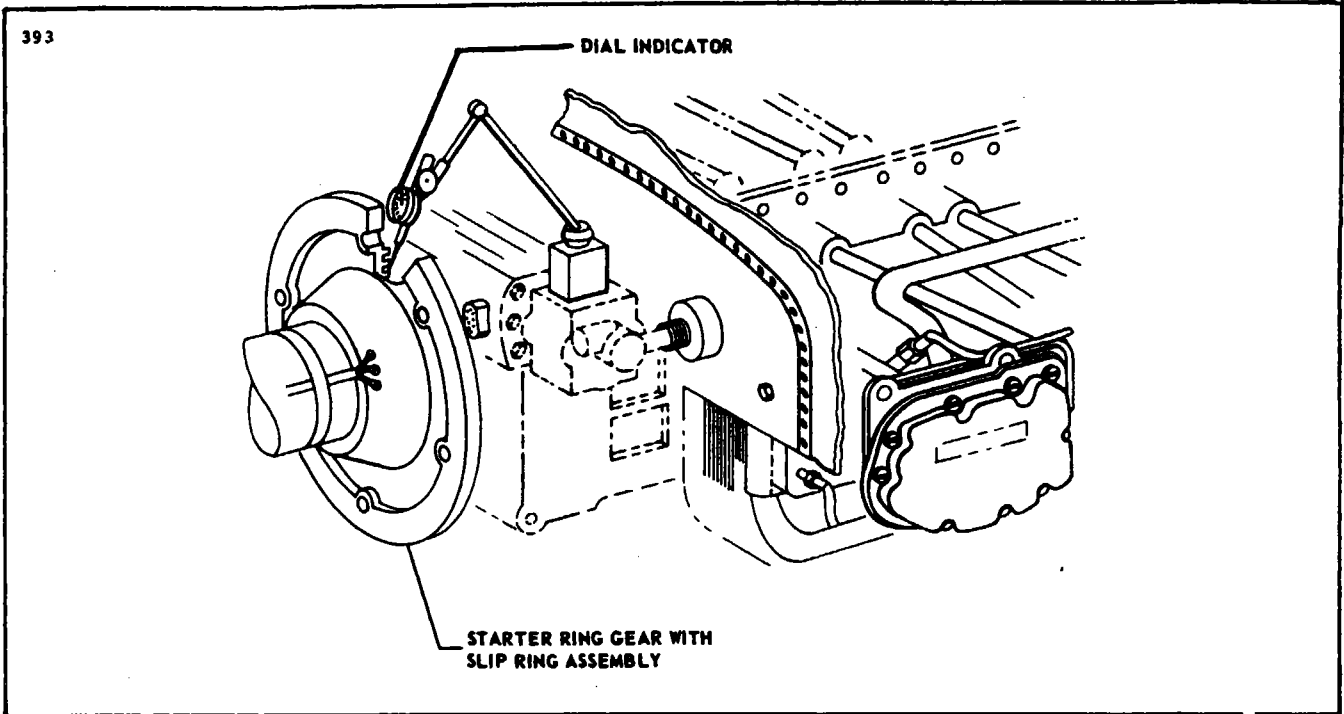

Figure 14-12. Typical Use of Dial Indicator
2. If uneven wear is found or if wobble is noticed, set up dial indicator as shown in Figure 14-12 to check alignment of slip rings to propeller shaft.